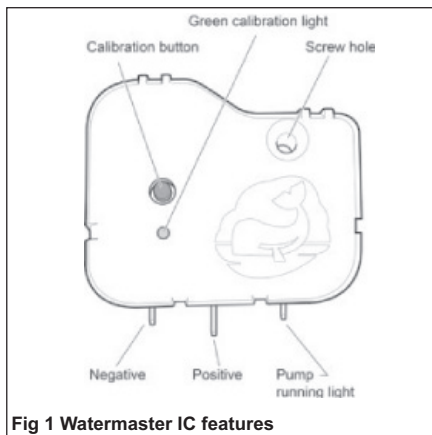
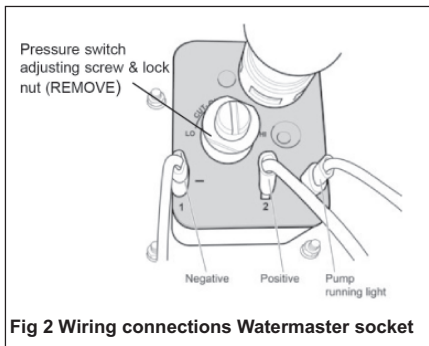

Fig 1 Watermaster IC features
Fig 2 Wiring connections Watermaster socket
Putting into <<service>> Figure 1.
Operation of the <<reserve>> Figure 2.
- Step 2 - Unplug the spade connections on the water inlet socket - ensuring that you note the order of wires for reconnection with the Watermaster IC (See Fig 1 and Fig 2).
- Step 3 - Unscrew and remove the pressure switch adjusting screw and locking nut (see Fig 2)